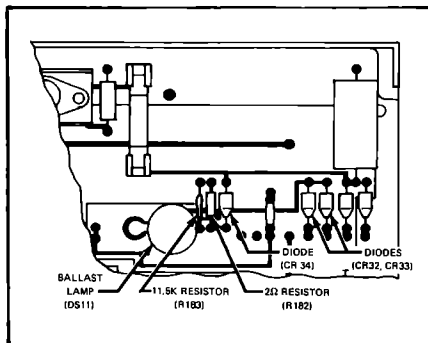

Figure 6-1. COMPONENT INSTALLATION MAIN PCB
- c. Install the 2Ω and 11.5k resistors on the pcb as shown in Figure 6-1.
- d. Install the three diodes on the pcb as shown in Figure 6-1. Ensure that the diodes are correctly oriented according to the cathode markings and the etched markings on the pcb.
- e. Install the ballast lamp on the pcb as shown in Figure 6-1. Three solder connections are required: The anchor lug on the component side of the pcb should be soldered to the lamp base, the two lamp terminals should be soldered on the land-pattern side of the pcb.